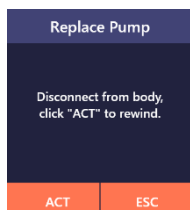

Figure 11.1
(1) Disconnect from body, click "ACT" to rewind the push rod then the user can continue to replace the pump, or click "ESC" to return to the "More" interface (as shown in Figure 11.1).